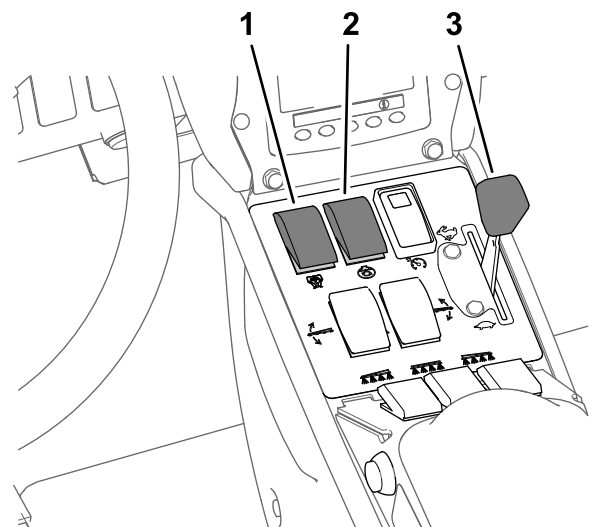

Figure 37
8. Set the agitation switch and the spray-pump switch to the ON position (Figure 37).
9. Set the throttle to the FAST position (Figure 37).
Note: This procedure assumes that the spray pump is on; refer to Figure 37 in Spraying in the Application Rate Mode \(page 33\).
4. Adjust the throttle to the desired engine speed to spray; refer to Figure 37 in Spraying in the Application Rate Mode \(page 33\).